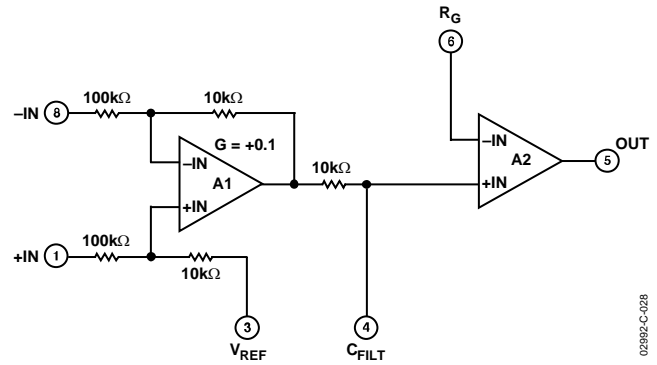
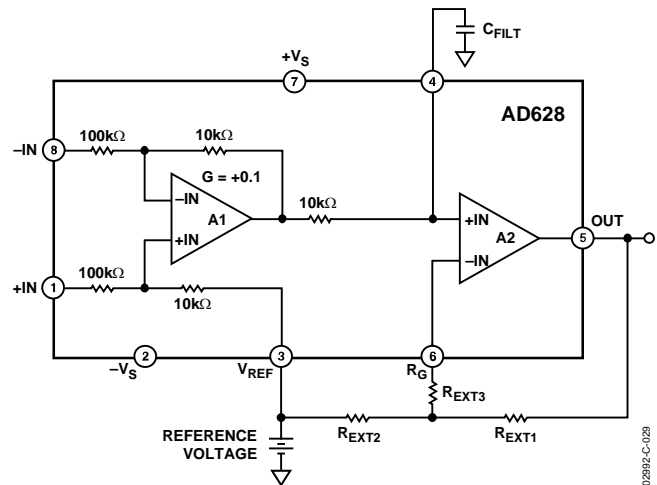

Figure 28. Simplified Schematic
Figure 29. Circuit Connections
The AD628 is a high common-mode voltage difference amplifier, combined with a user configurable output amplifier (see Figure 28 and Figure 29). Differential mode voltages in excess of 120 V are accurately scaled by a precision 11:1 voltage divider at the input. A reference voltage input is available to the user at Pin 3 ( $V_{REF}$ ). The output common-mode voltage of the difference amplifier is the same as the voltage applied to the reference pin. If the uncommitted amplifier is configured for gain, connecting Pin 3 to one end of the external gain resistor establishes the output common-mode voltage at Pin 5 (OUT).
**Table 5. Nearest Standard 1% Resistor Values for Various Gains (See Figure 29)**